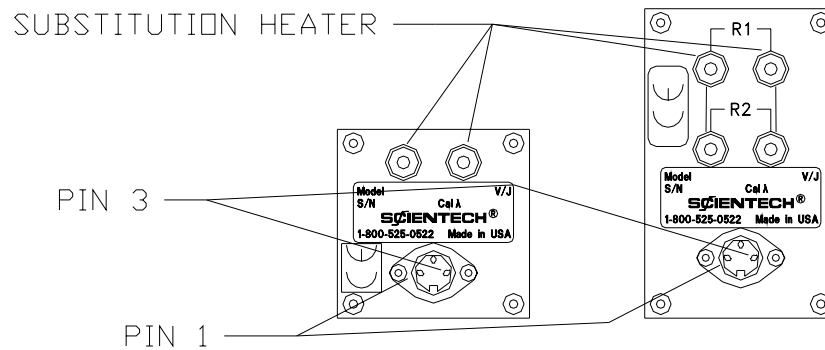

Figure 6
- A. Connect a DVM to the white jacks of the calorimeter. Refer to Figure 6.
For this procedure you will need to make an adapter cable to go from the calorimeter's DIN connector to the DVM. The voltage output is on pin 1 of the DIN connector and should be connected to the positive side of the DVM. Ground is on pin 3 and should be connected to the negative side. Pin 2 is not used. Refer to Figure 6.
When large aperture calorimeters are used without an indicator their interface module is not used. The output of the calorimeter is connected directly to the DVM or chart recorder. Large aperture calorimeters do not require any power. The voltage output is on pin 1 of the DIN connector and should be connected to the positive side of the DVM or chart recorder. Ground is on pin 3 and should be connected to the negative side. Pin 2 is not used. Refer to Figure 6.